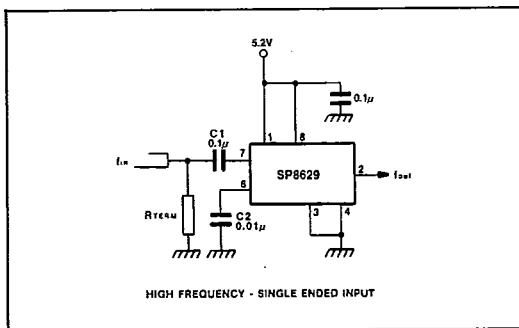

Fig.6 High frequency, single-ended input
2. The signal source is usually capacitively coupled to the input as shown in Fig. 6. In the single-ended mode a capacitor of  $0.01\mu F$  ( $C_2$ ) should be connected between the unused input and the ground plane to provide a good high frequency bypass. The capacitor should be increased at lower frequencies. If the input is likely to be interrupted, it may be desirable to connect a 100k resistor between an input and ground.